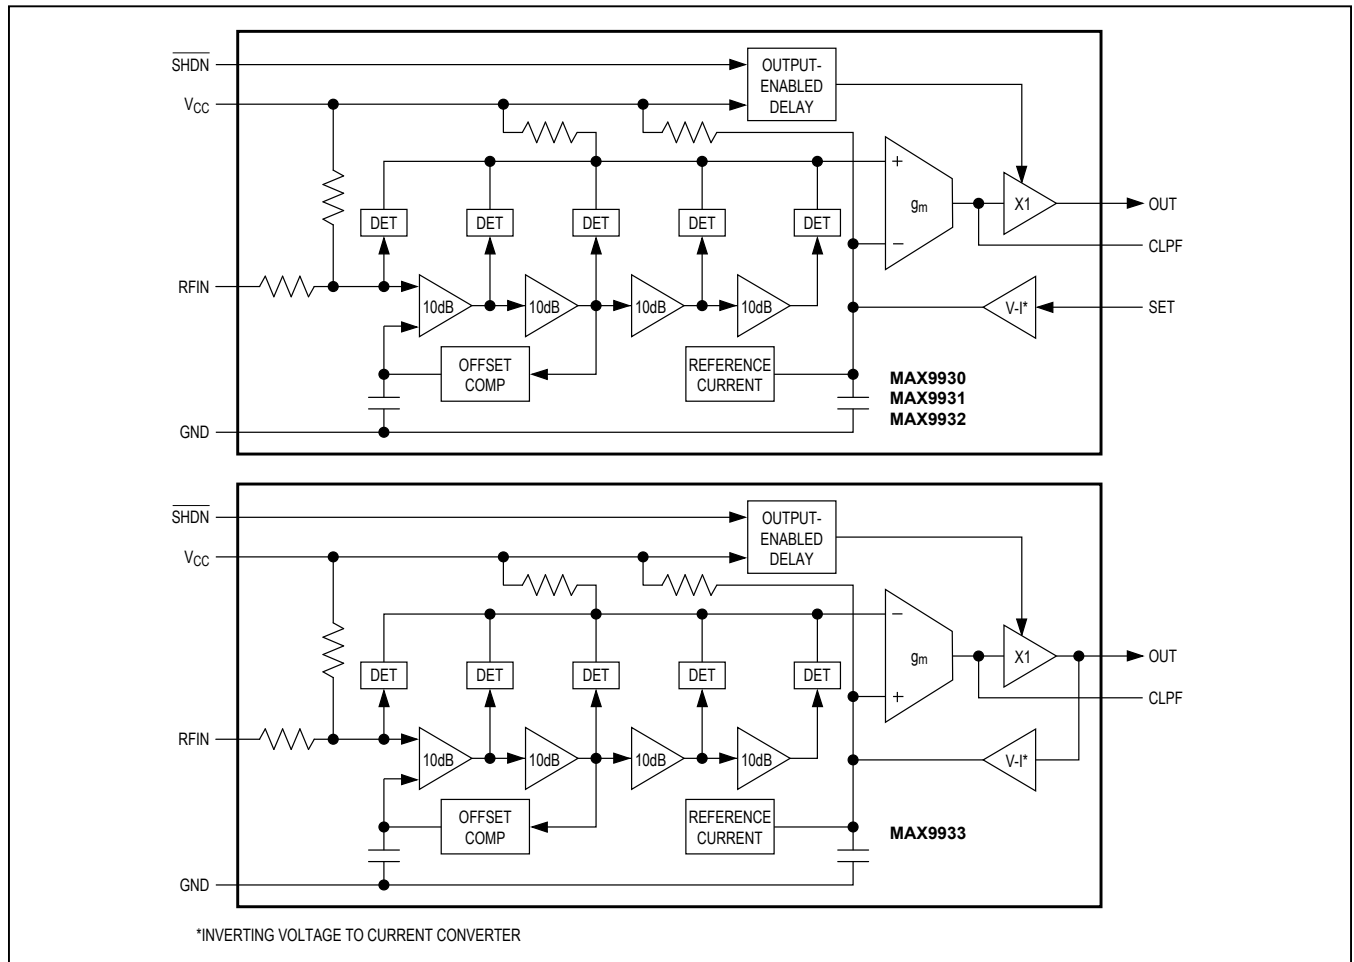

Figure 1. Functional Diagram
- Note 3:** Set-point slew rate is the rate at which the reference level voltage, applied to the inverting input of the g_m stage, responds to a voltage step at the SET pin (see Figure 1).
The MAX9930–MAX9933 family of logarithmic amplifiers (log amps) comprises four main amplifier/limiter stages each with a small-signal gain of 10dB. The output stage of each amplifier is applied to a full-wave rectifier (detector). A detector stage also precedes the first gain stage. In total, five detectors, each separated by 10dB, comprise the log amp strip. Figure 1 shows the functional diagram of the log amps.